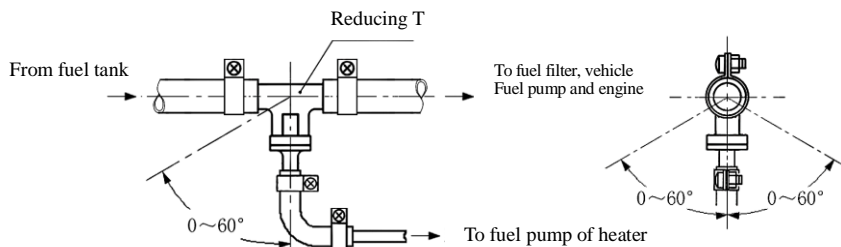

Fig. 19
4.4.6.2 If fuel is sucked from the fuel pipe to the engine, the fuel pipe from the fuel tank to the fuel filter shall be disconnected and re-connected with the thicker pipes of the reducing T and the thinner pipe of the reducing T shall connect the fuel pump of the heater via oil pipe fitting and fuel pipe. Must ensure fuel extraction without any pressure and extract the fuel smoothly when the car is stopping. The angle for installation must be in conformity with Fig. 19, or normal work of the heater will be affected.